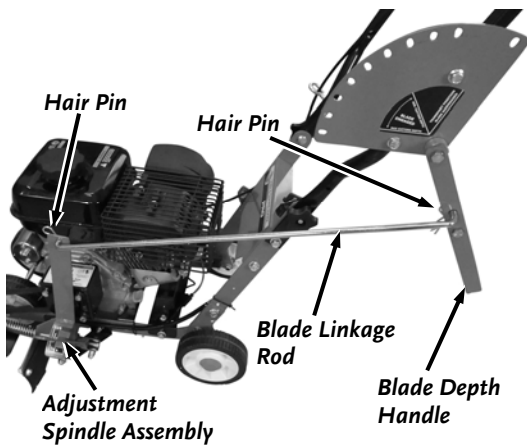

Figure 6
4. Position the Blade Depth Handle as shown to allow room so the Blade Linkage Rod can be installed in the next step (**Figure 6**).